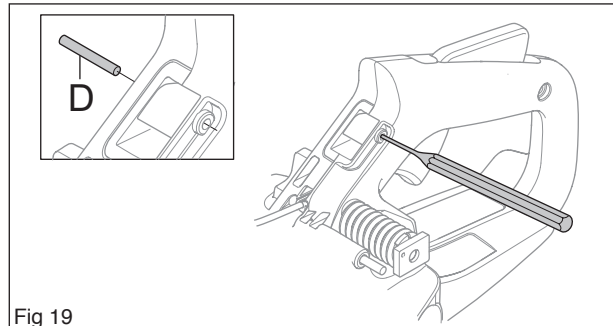

Fig 19
Press out the throttle control pin (D) with the help of a punch. (see figure 19)